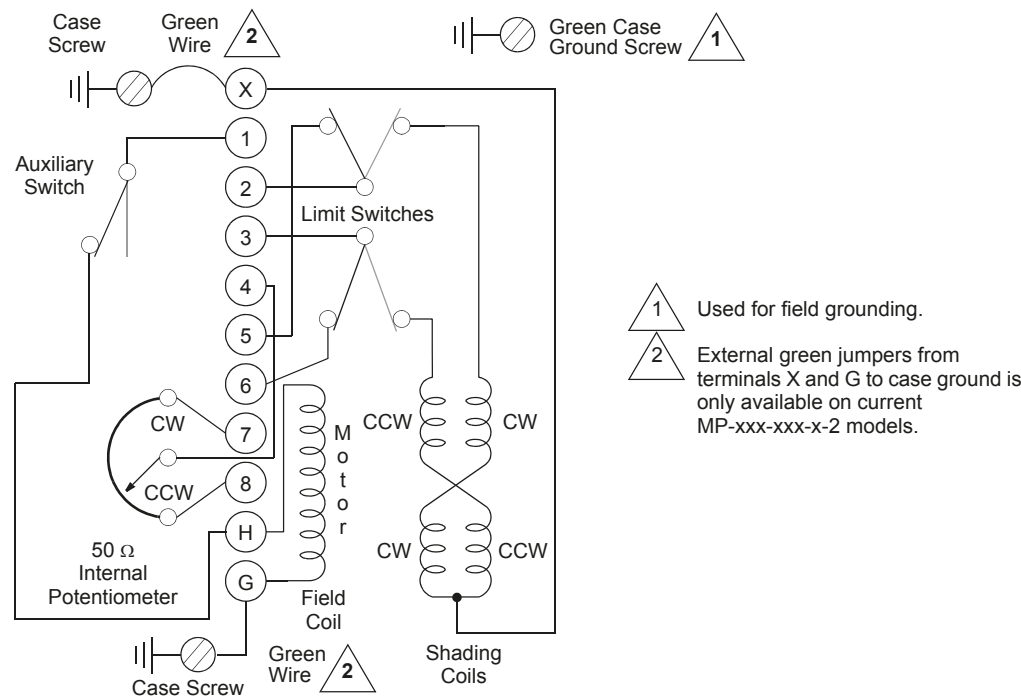

Figure-32 Internal Wiring for 24 Vac Sequencing Actuators.
5. Refer to Figure-3 through Figure-32 for correct model and application wiring.